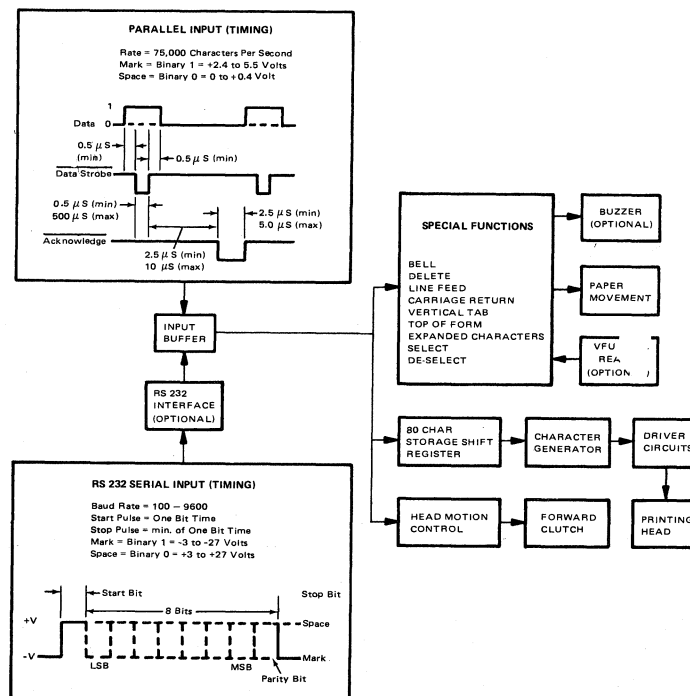

Figure 1-2. BASIC BLOCK DIAGRAM
1.2 LOGIC FLOW DIAGRAM (Figure 1-2)